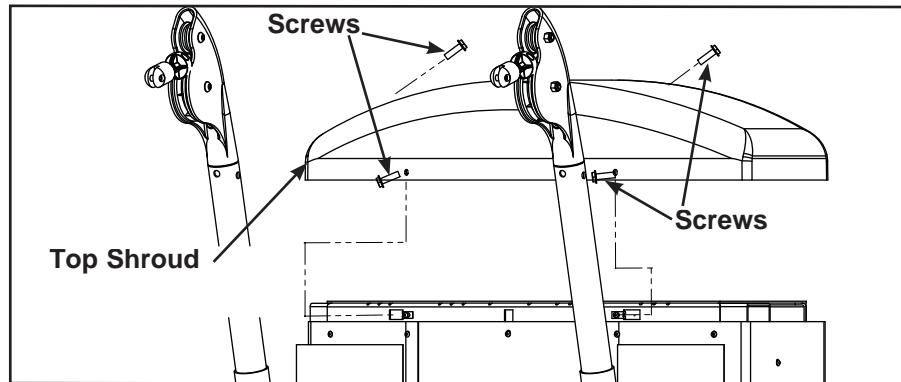

Figure 5
- A. Using a 1/8" Allen wrench, remove 4 screws holding top shroud. See Figure 5.